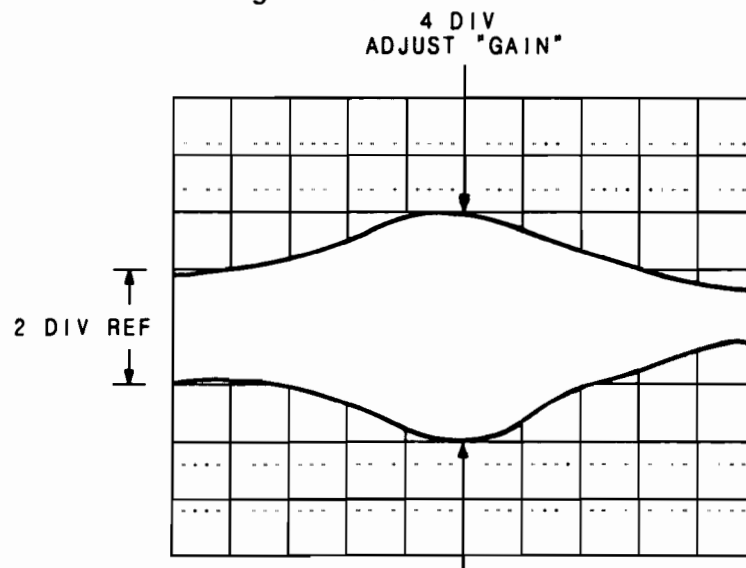
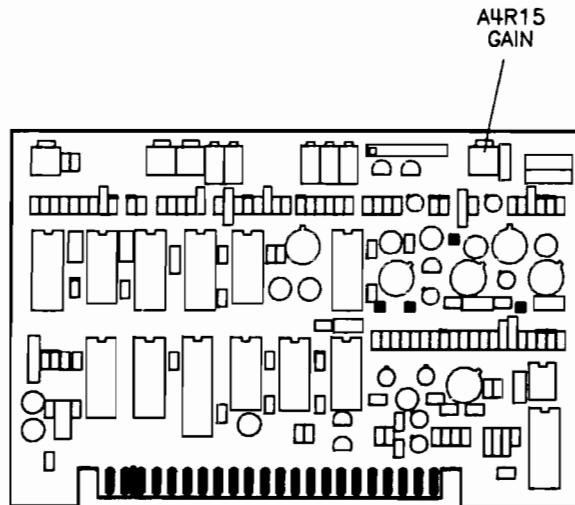

Figure 5-45. ALC Gain Adjusted Correctly (Worst Case)
Figure 5-46. ALC Gain Adjustment Location
5. Adjust the amplitude for a 4 division modulation trace on the oscilloscope. The trace should be 2 divisions at 100 Hz. See Figure 5-45.
6. While monitoring channel A, manually sweep the entire RF plug-in frequency range and adjust A4R15 (GAIN) for 4 divisions of peaking at the RF plug-in frequency where the highest gain peaking occurs. See Figure 5-45. Refer to Figure 5-46 for adjustment locations.